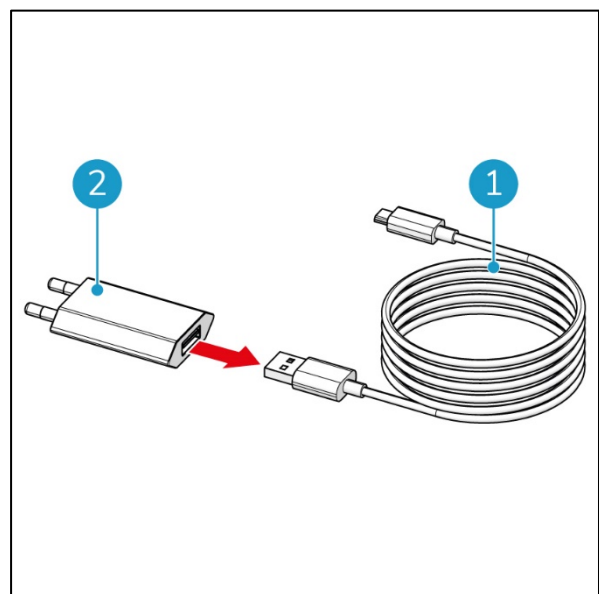

Figure 5
1. Connect the USB charger (Figure 5, pos 2) to the USB cable (Figure 5, pos 1).